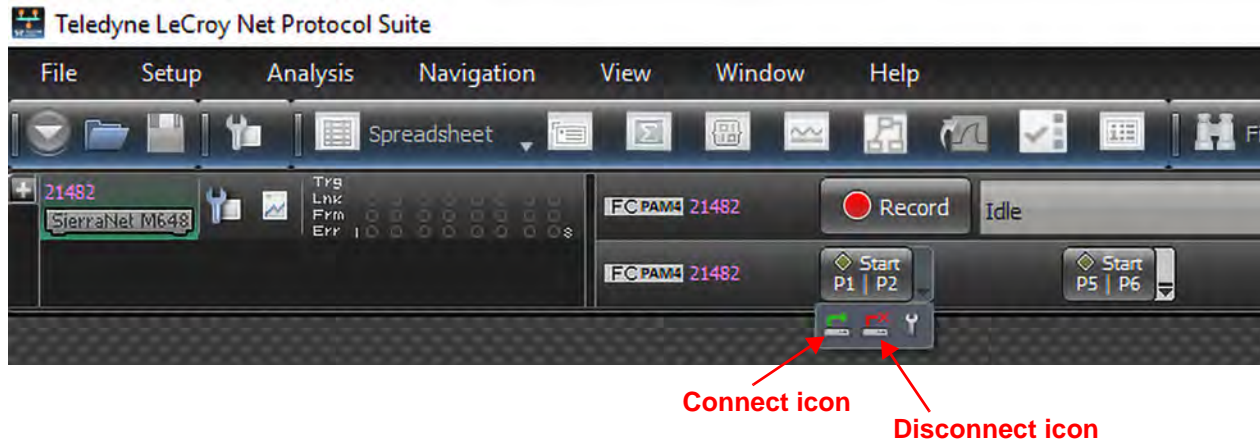

Figure 8.35: Start Script Running on Exerciser with Connect Button
- Disconnect icon to stop the Exerciser and take the link down. See Figure 8.35.